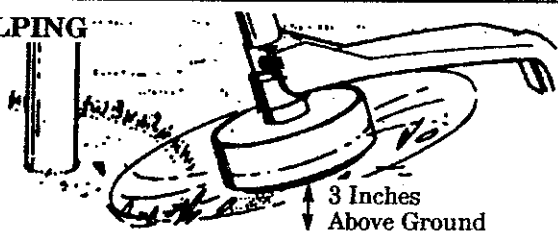

Figure 15
2. **SCALPING** - FIGURE 15. The scalping technique removes unwanted vegetation. Hold the bottom of the trimmer head about 3 inches above the ground and at an angle. Allow the tip of the line to strike the ground around trees, posts, monuments, etc. *This technique increases line wear.*